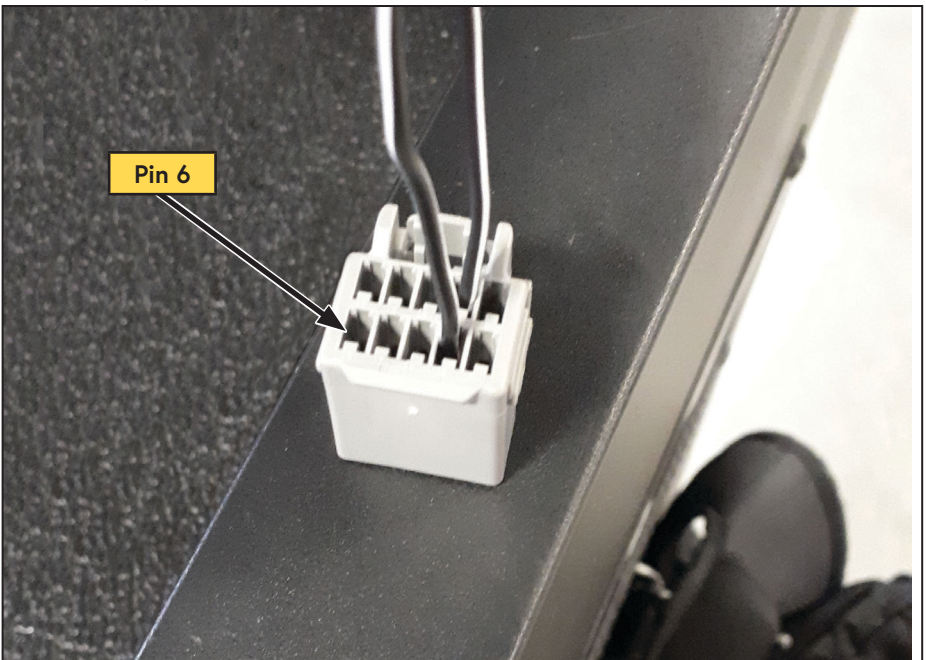

Figure 59 — Connect key switched power
- Connect the orange wire, running from the control module, into pin 6 (key switched power) of the 10 pin connector (Figure 59).